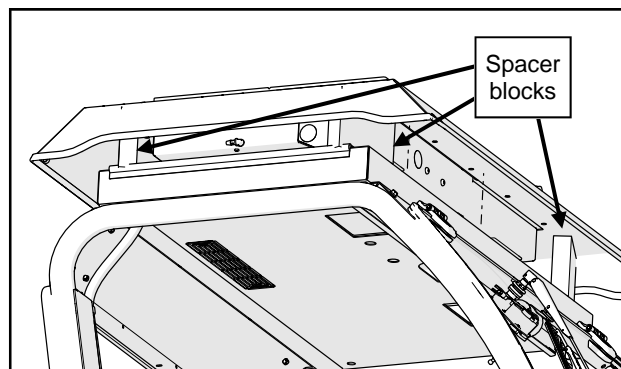

Fig. 2.13 (Place Outer Roof onto Inner Roof)
- 2.13** With assistance, place the outer roof and A/C assembly on top of the inner roof, with spacers at each corner holding the outer roof a few inches above the inner roof. Figure 2.13.